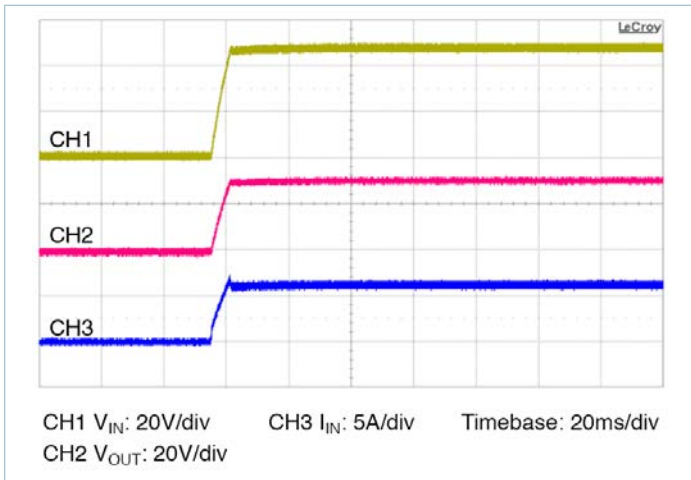

Figure 13 — Start up from application of  $V_{IN}$ ; VC pre-applied  $C_{OUT} = 100\mu\text{F}$
- **Normal operation (VC applied prior to  $V_{IN}$ ):** In this case the controller is active prior to ramping the input. When the input voltage is applied, the VTM module output voltage will track the input (See Figure 13). The inrush current is determined by the input voltage rate of rise and output capacitance. If the VC voltage is removed prior to the input reaching 26V, the VTM may shut down.